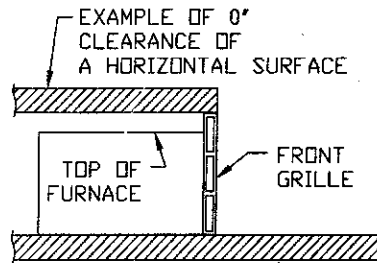

Figure 4A
A horizontal surface above the unit may be installed with zero (0) inch clearance to the top of the front grille. (See Figure 4A.)